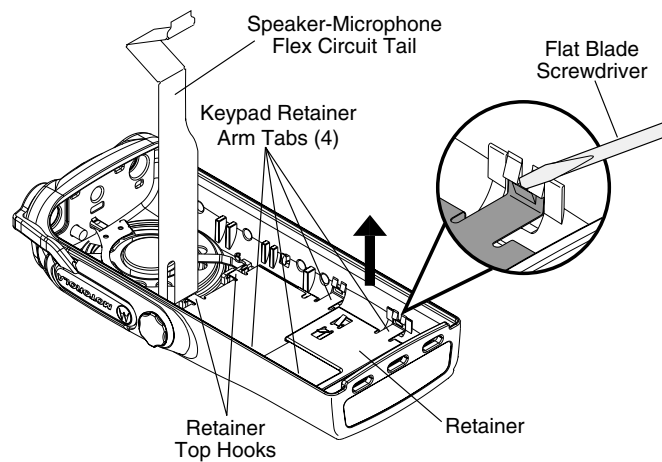

Figure 3-6 Remove Retainer
1. If the disassembly of the keypad, the keypad printed circuit board, or the display is required, lift the microphone flex circuit up, and carefully remove the microphone and its boot from the front cover pocket. (See Figure 3-6.)